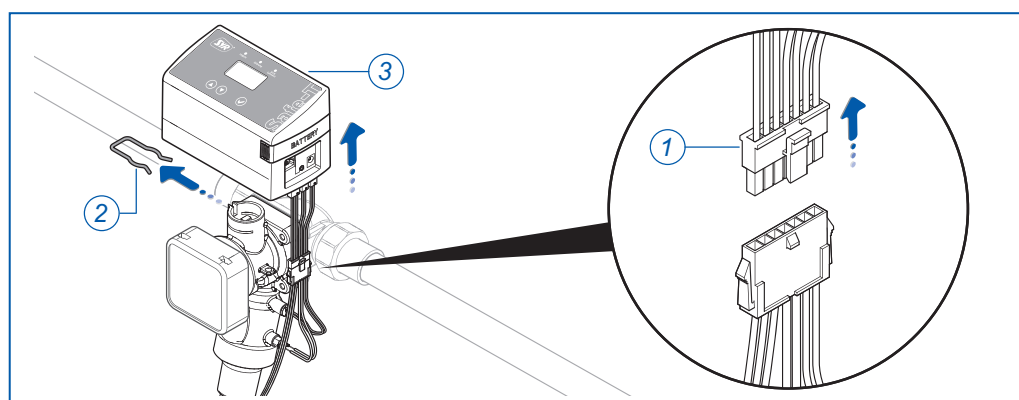

Fig. 9: Removing controller
- ▶ Unplug everything from the side and disconnect the 7-pin adapter (1, fig. 9).